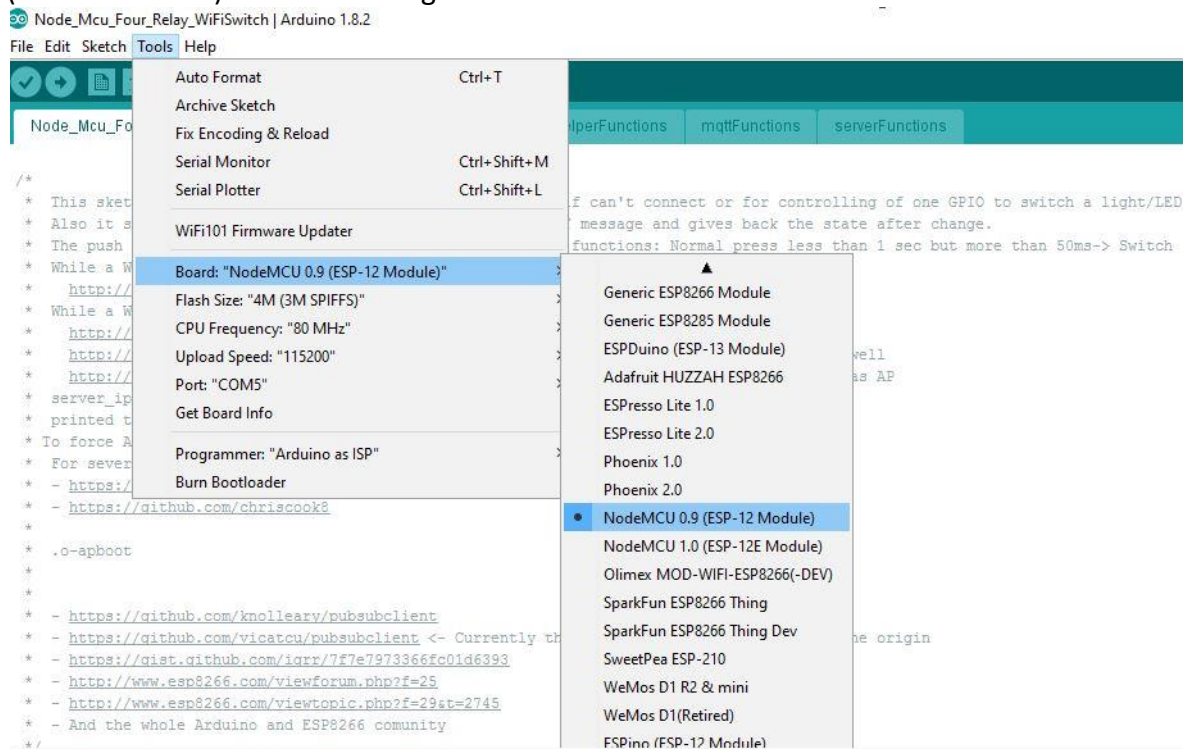

Figure 14: Board Selection
9. Click on Tools Tab, move mouse pointer on "Board: xxxxxxxxxxx" and click on "NodeMCU0.9 (ESP-12 Module)" as shown in figure 14.